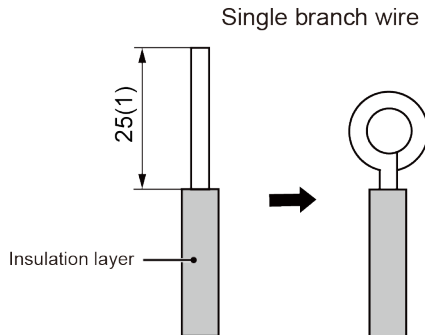

Fig.5.1.1
(1) The connection of wire (as shown in Fig.5.1.1)